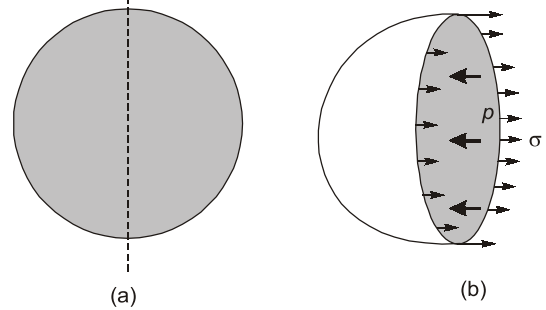

Figure 1.5 Surface Tension (σ) and Internal Pressure (p) in a droplet
- (i) **Pressure intensity inside a droplet :** Consider a spherical droplet (Figure 1.5 (a)) of radius r having internal pressure intensity p in excess of the outside pressure intensity. If the droplet is cut into two halves, then the forces acting on one half (Figure 1.5 (b)) will be those due to pressure intensity (p) on the projected area (πr^2) and the tensile force due to surface tension (σ) acting around the circumference ($2\pi r$). These two forces will be equal and opposite for equilibrium and hence we have